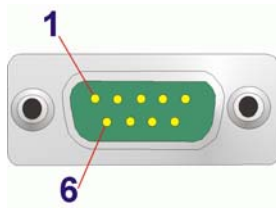

Figure 3-39: Serial Port Connector (COM1) Pinouts
- CN Pinouts:** See **Table 3-36** and **Figure 3-39**